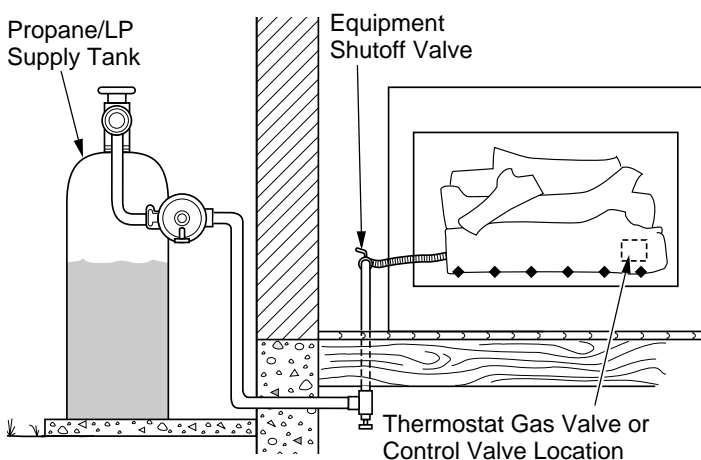

Figure 18 - Checking Gas Joints (Propane/LP Gas Models)
3. Check all joints from gas meter to equipment shutoff valve for natural gas or propane/LP supply to equipment shutoff valve for propane/LP (see Figures 18 and 19). Apply noncorrosive leak detection fluid to all joints. Bubbles forming show a leak.
4. Check all joints from equipment shutoff valve to thermostat gas valve (Thermostat-Controlled Models), to control valve (Manually-Controlled Models), or to gas control (Remote-Ready Models)(see Figures 18 and 19). Apply noncorrosive leak detection fluid to all joints. Bubbles forming show a leak.